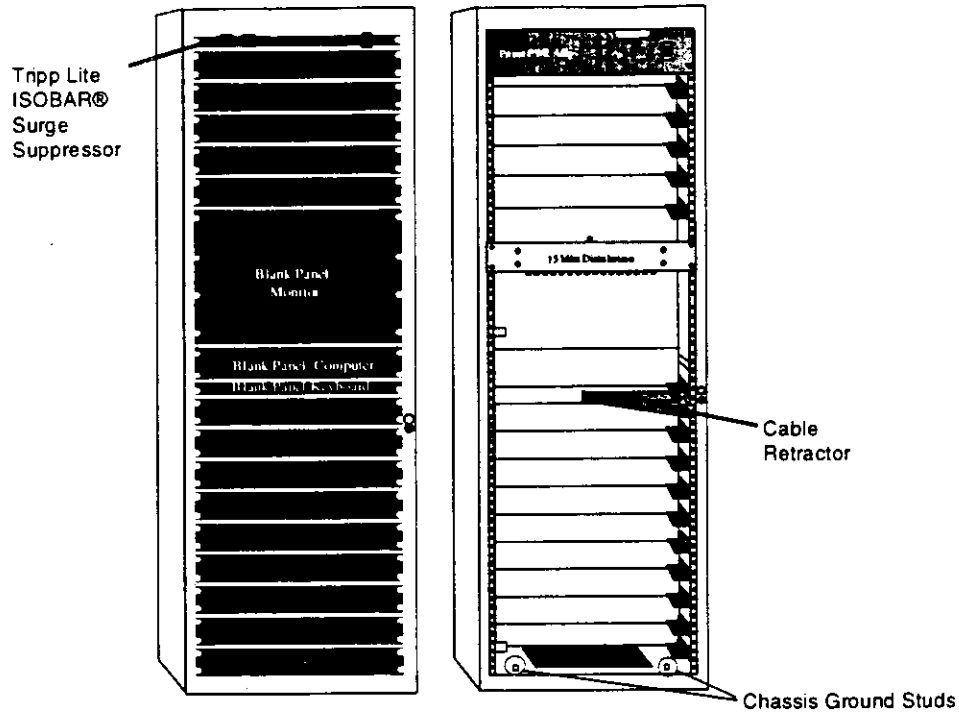
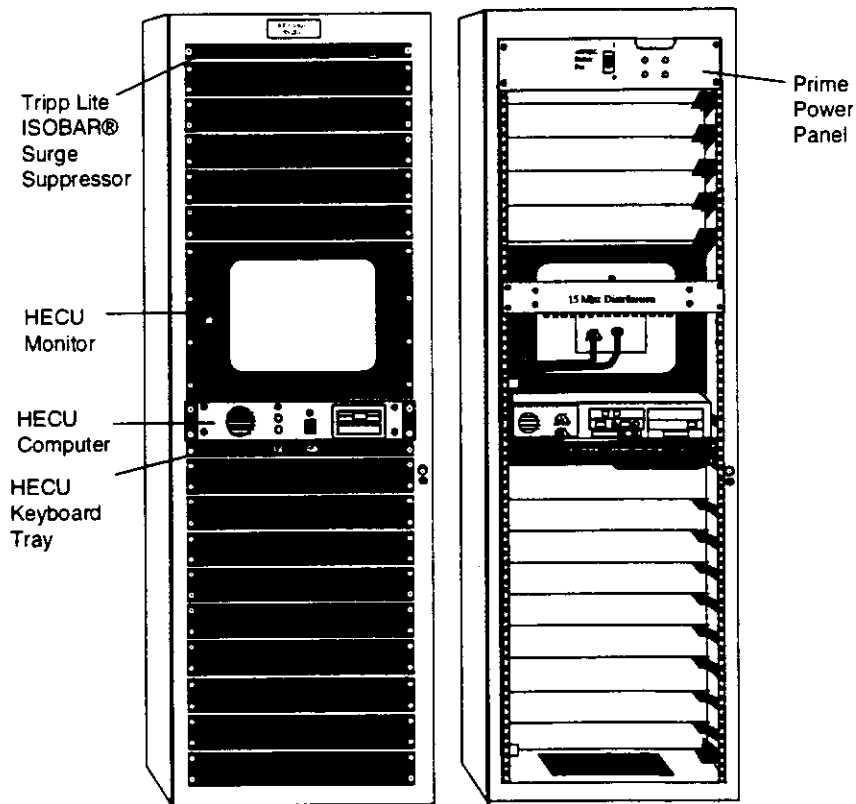

Figure 2-2. Typical Rack Configuration
Figure 2-3. Typical Primary Rack Configuration
Figure 2-2 shows a typical rack configuration as it appears before installation of the HECU and individual HICs. Both rack configurations use the identical equipment rack. The rack is 76 inches high, 30 inches deep, and 23 inches wide. A minimum of 36 inches of clear space behind the rack is recommended for servicing and proper ventilation. As shown in Figure 2-3, the primary rack configuration contains the HECU. For this configuration, when the HECU keyboard tray is extended, another 40 inches is suggested for operator workspace. It is recommended that the rack be bolted to the floor.
- a. Remove the eight screws and washers securing the blank panel covering the location for the HECU Monitor (see Figure 2-2). Remove and store the blank panel and the hardware.
- b. Remove the four screws and washers securing the blank panel covering the location for the HECU Computer (see Figure 2-2). Remove and store the blank panel. Save the hardware to use later.
- c. Remove the two 10-32 x 0.50 screws and washers securing the blank panel covering the location for the keyboard tray (see Figure 2-2). Remove and store the blank panel.
- i. Insert the computer into the rack at the location specified in Figure 2-3.
- n. While supporting the front and back of the monitor, carefully insert the monitor into the front of the rack at the location shown in Figure 2-3.